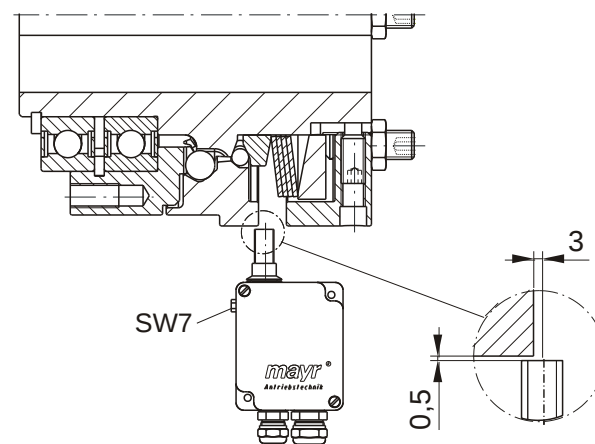

Fig. 21
In order to limit run-out times after overload has taken place, a limit switch must be mounted onto the overload clutch. The contactless limit switch is to be mounted onto the switching edge of the clutch (Fig. 21) so that no signal changes are caused during normal operation on the limit switch by the usual clutch run-out errors.
Adjust the switch distances for the contactless limit switch acc. Fig. 21. The distance of the thrust washer (3) to the switching point can be adjusted using a hexagon head screw, wrench opening 7.